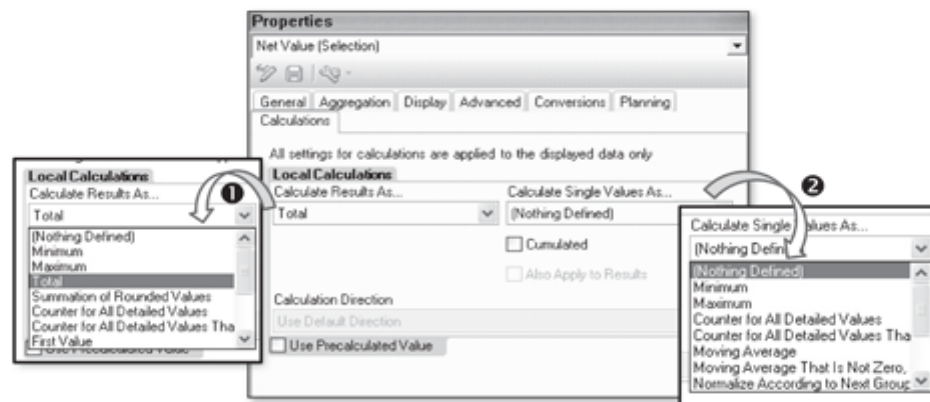

Figure 9.76 Key Figure Properties – Calculations Tab
The Calculations tab allows you to define the way you want the results and the single values to be calculated for the report output (see Figure 9.76).
The option you choose in the Calculate Result As area (❶ of Figure 9.76) will actually recalculate the result per the selected option. Similarly, the option you select under Calculate Single Value As (❷) will influence the way single values are recalculated for the query output display.